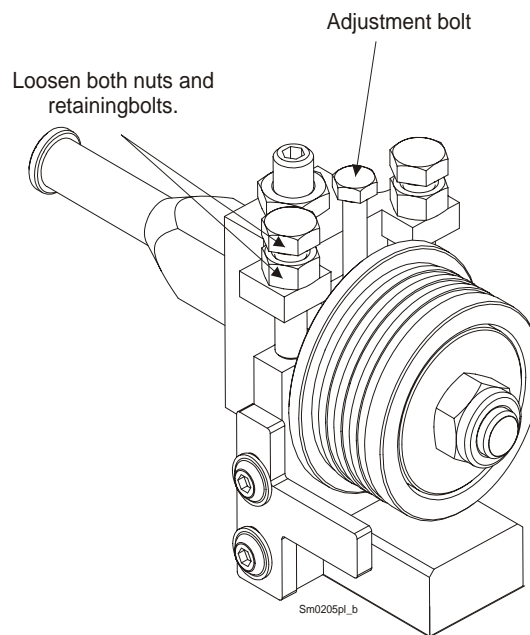

FIG. 5-18
**See Figure 5-18.** Loosen both nuts and retaining bolts. Use the adjustment bolt to raise or lower the disc until its distance from the blade is 0.3 - 0.5 mm. Then retighten the retaining bolts so that the disc is parallel to the blade. Retighten the retaining bolt nuts.